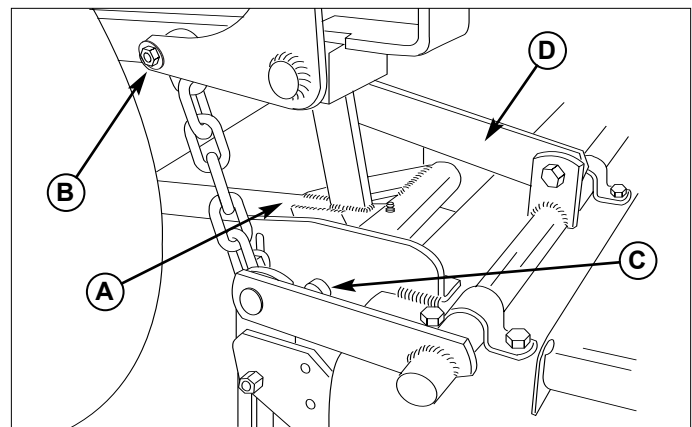

Figure 12. Rear Deck Mount (right side shown)
9. Remove the chain mounting hardware from the lift arm end of the chain (B, Figure 12).
10. Remove the hardware fastening the roller position link (D, Figure 12) from the pusher bar end.
12. Remove the rear deck mount pins (C, Figure 12) and let the pusher bar (A, Figure 12) swing out of the way.
2. Install the bar mount pins (C, Figure 12) to secure the pusher bars (A, Figure 12) to the mower.
4. Install the roller position link (D, Figure 12) to the pusher bar.
8. Secure the chains to the lift arms (B, Figure 12).